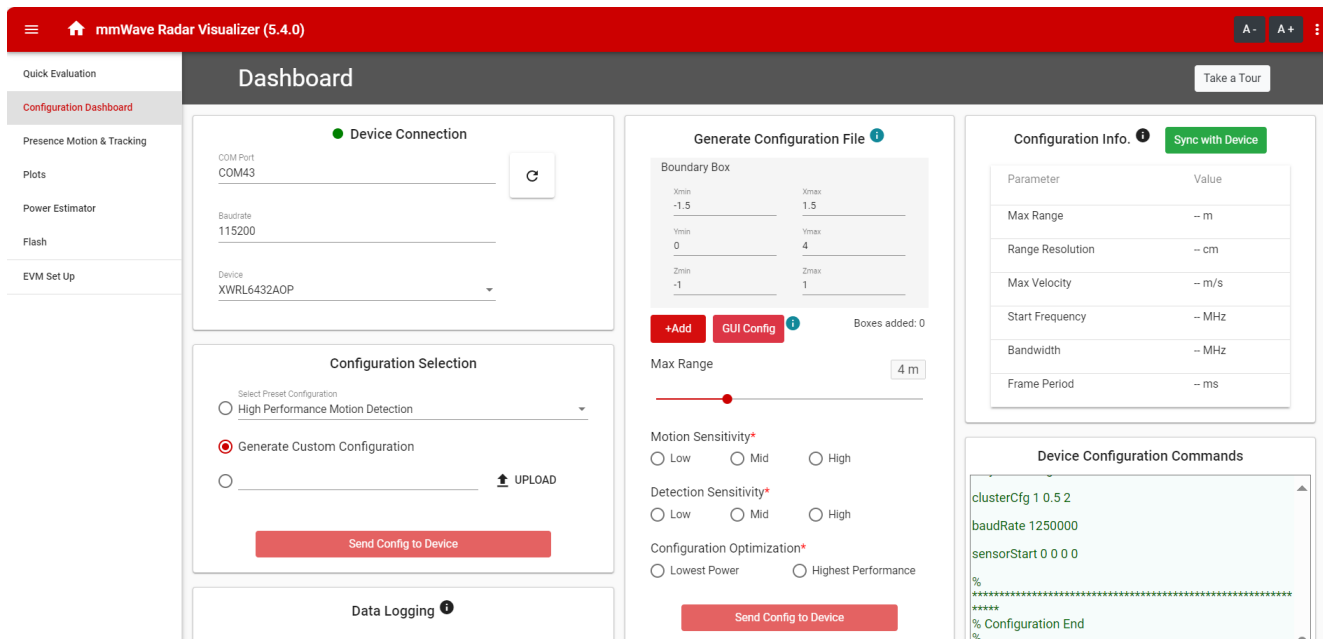

Figure 3-3. Configuration Dashboard
3. Navigate to *Configuration Dashboard* tab of the visualizer. Wait for AUTO detection of COM ports (else press refresh). Alternatively, manually select device COM port (if not already selected). Select preset configuration under *Configuration Selection* drop-down. Similar to that shown in Figure 3-3.